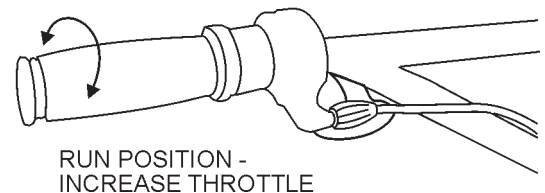

Figure 7. Throttle
1. Set the **throttle** (Figure 7) to the idle position by rotating the grip toward the operator and away from the engine.